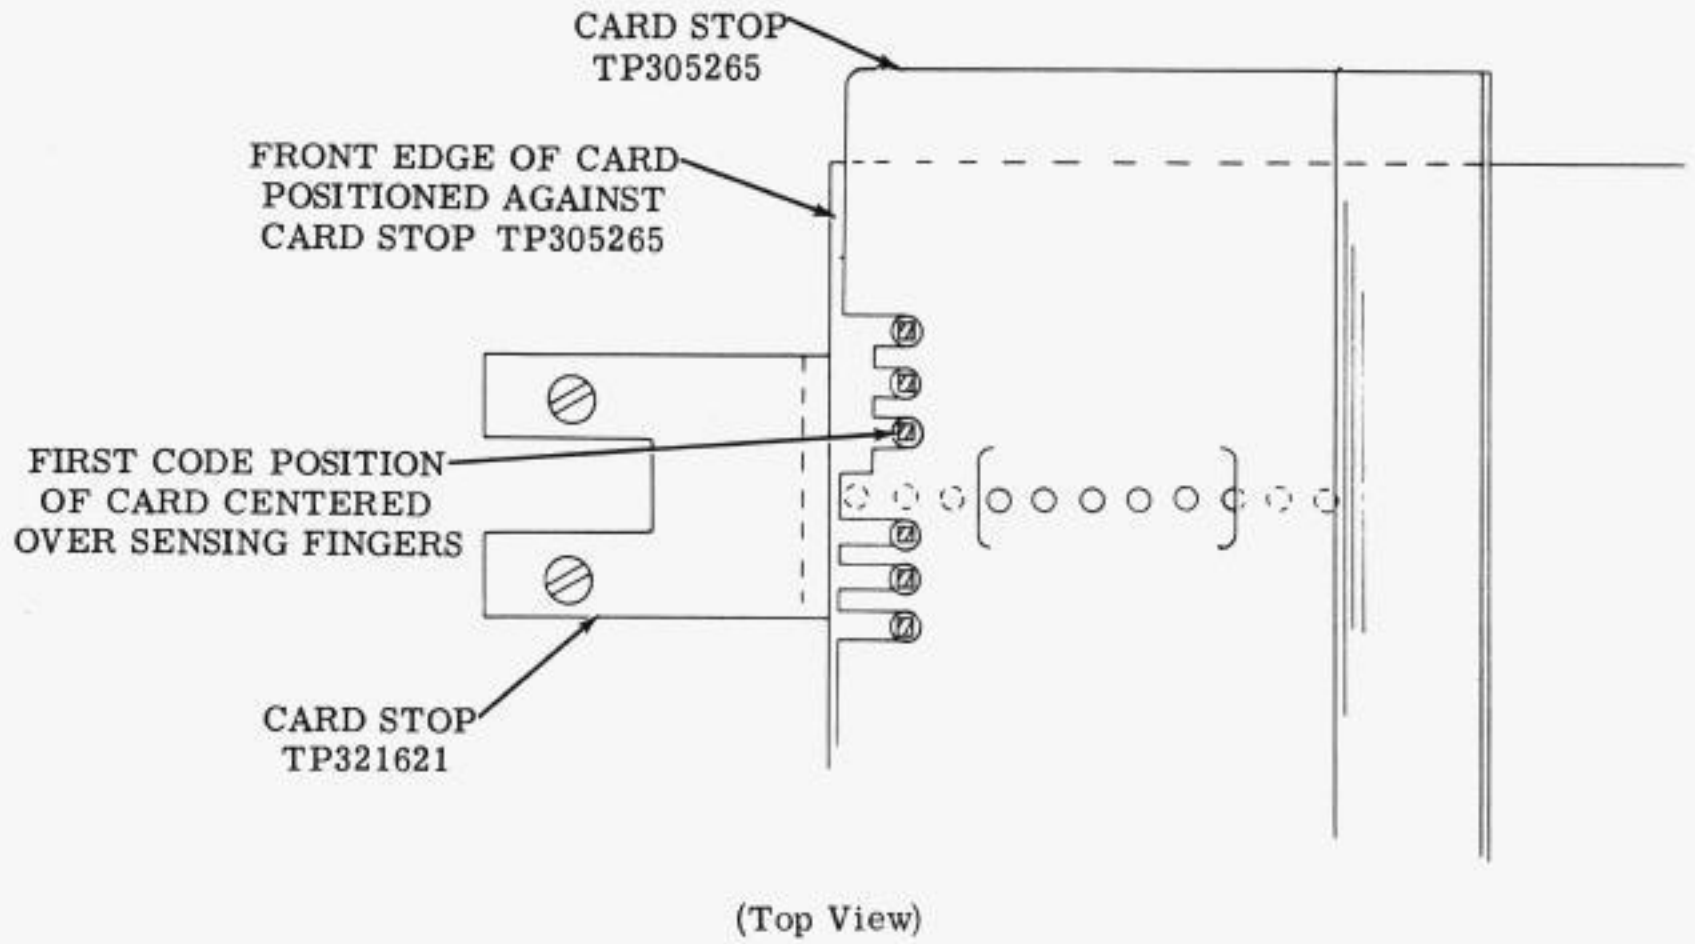

Figure 10 - Reader Stop Plate
3.05 This step is concerned with causing the card to be inserted the correct distance in the card reader by the feeder. The feeder is controlled by the card-in contact on the card reader. When a card has been inserted into the reader a given distance, its leading edge will cam down the card-in actuator arm and break the card-in contact. This is the signal for the feeder relay to fall out and cause feeding to stop. The object then is to position the actuator arm so that the card is driven firmly against the card stop (Figures 10 and 11). Remove the cover from the card reader. With the feeder and the card reader running, place a card in the feeder. By holding down on the STOP switch on the card reader top plate, a card may be inserted into the reader without the lid solenoid causing the sensing to start. By this means it is easy to determine if the drive of the feeder is sufficient to cause the card to move against the card stop. If the card is not completely up to the card stop, or if it is overdriven so as to damage the card, it will be necessary to proceed as follows: